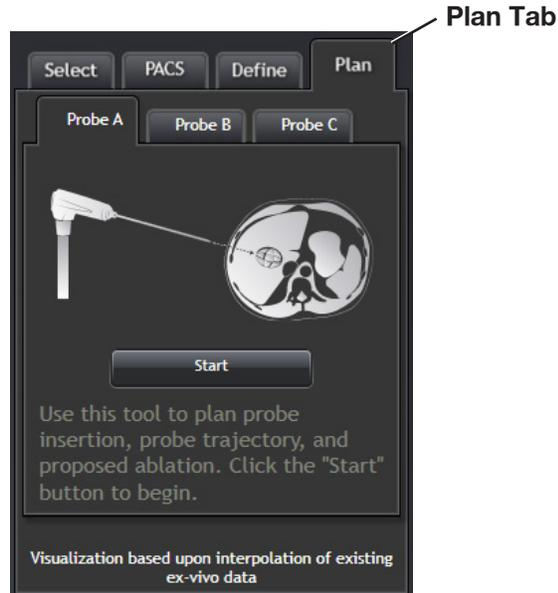

Figure 3-21: The Plan Tab in the Define Targets Step.
1. Open the **Plan** tab on the **Define Targets** screen. Three tabs labeled Probe A, Probe B and Probe C appear indicating that up to three probe placement plans can be created. Each tab displays a diagram of a probe and an axial drawing of an abdominal plane (Figure 3-21).